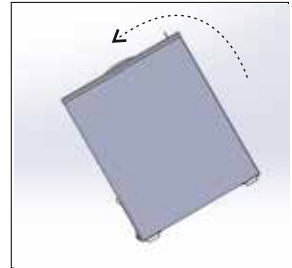

Fig. 3
•By placing the container as shown in figure 3, mount the two castors in the castor box as shown in figure 5, by applying the same procedure.